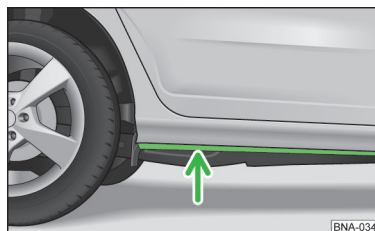

Fig. 67
- › Therefore determine the depth of the water before driving through bodies of water. The water level must not go above the web of the lower beam » fig. 67.